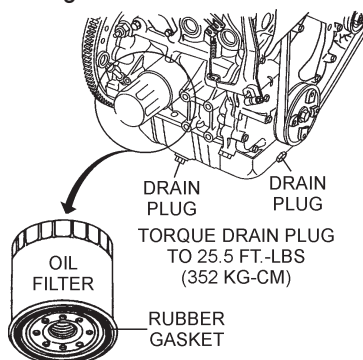

Figure 12. Engine Oil Filter
1. Change the engine oil filter (Figure 12) after the first 50 hours of use, then change every 6 months or 200 hours.